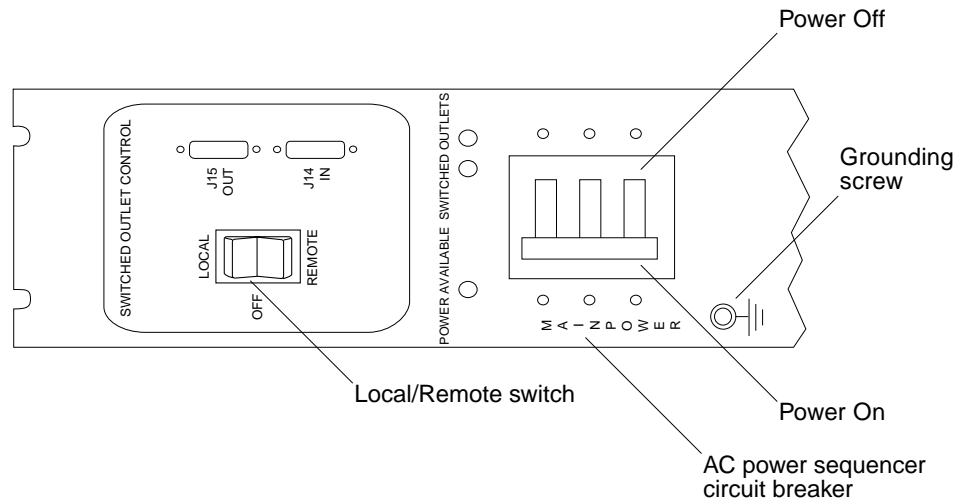

FIGURE B-8 AC Power Sequencer Control Panel
6. **At the bottom front and bottom back of the system on the base cabinet and any expansion cabinet, press the Local/Off/Remote switch to Remote (FIGURE B-8).**
7. **At the bottom front and bottom back of the base system cabinet, press the AC power sequencer circuit breakers to On (FIGURE B-8).**